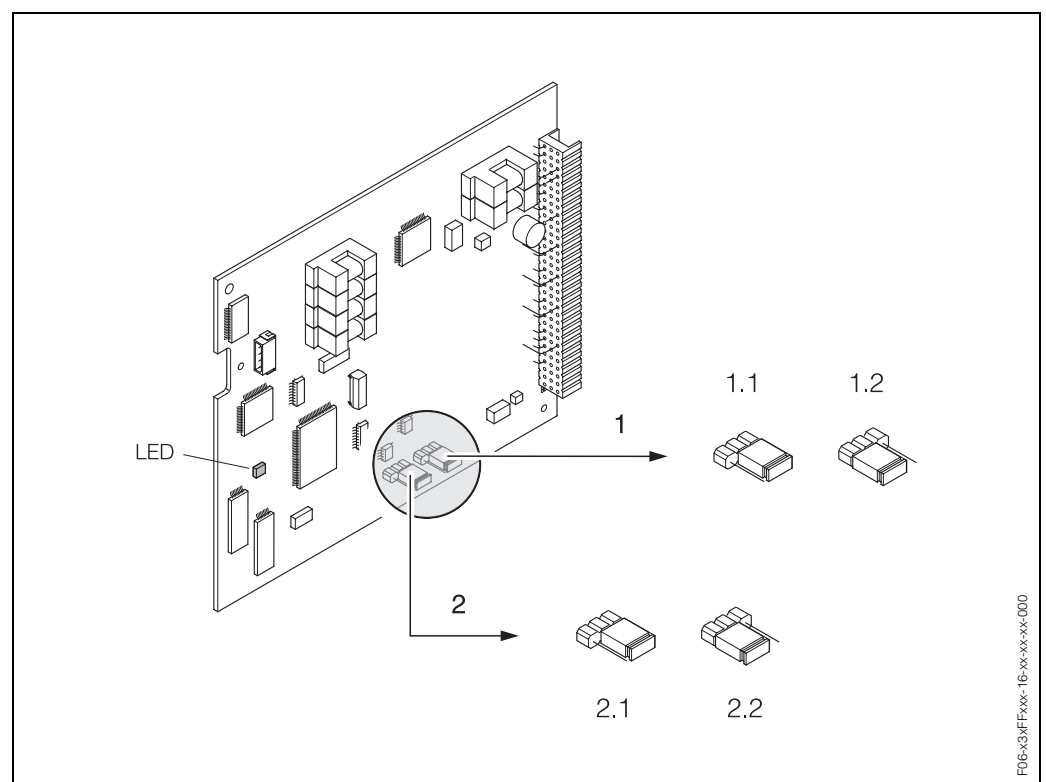

Fig. 44: Hardware configuration (I/O board)
3. Configure hardware write protection and simulation mode appropriately using the jumpers (Fig. 44).